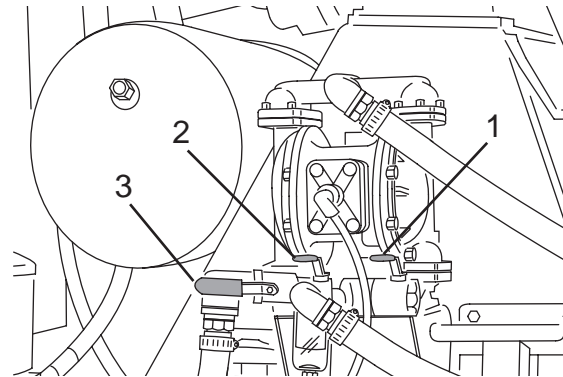

Figure 75
2. Close the purge valve (Figure 75, Item 1) at the pump inlet.
3. Open the main tank ball valve (Figure 75, Item 2) or chemical tank ball valve (Figure 75, Item 3) (if equipped) for the desired tank/water source.